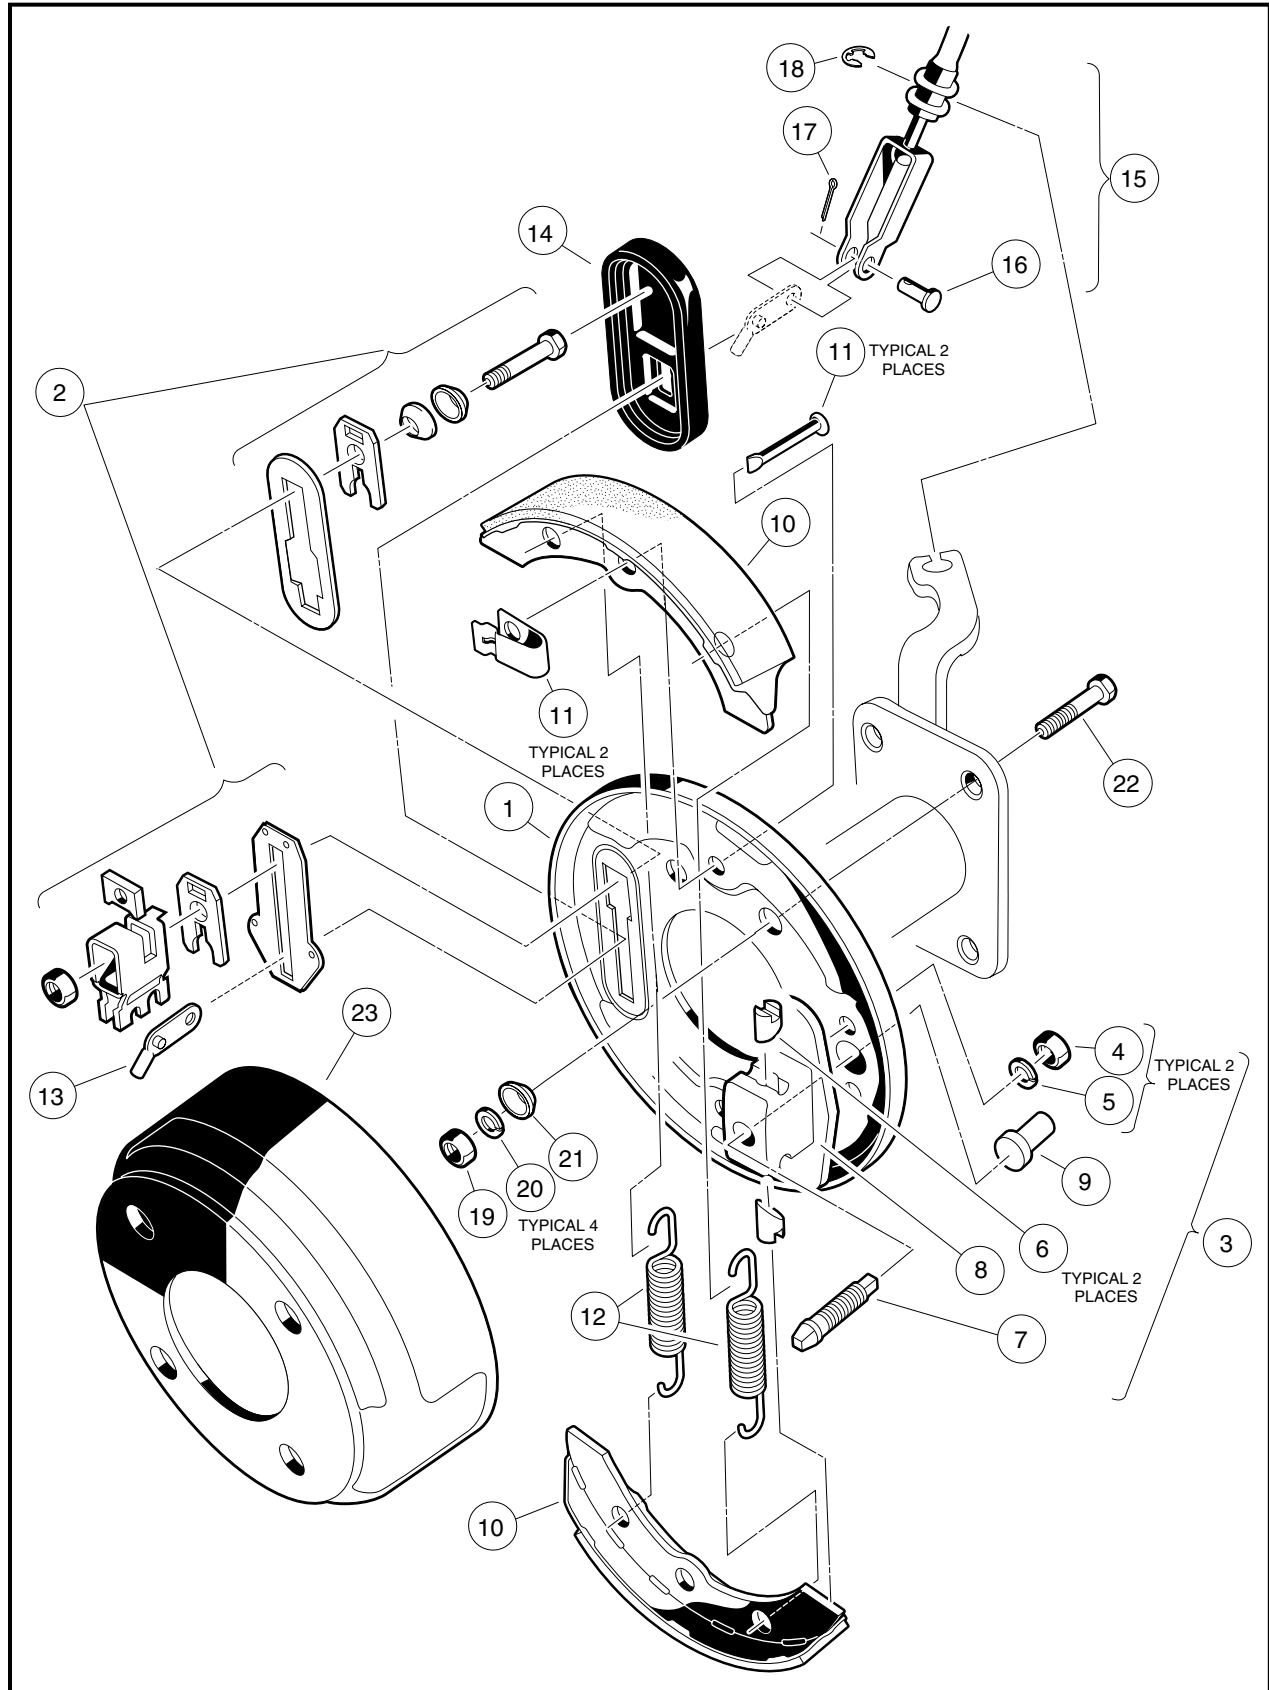

Figure 6-33 Front Manually-Adjusted Brake Assembly
**NOTE:** Components of the front wheel brake assembly are identical to the rear wheel manually-adjusted brake assembly. The front brake assembly is rotated 90° (when compared to the rear brake assembly) so the adjusting bolt on each assembly is oriented to the rear of the vehicle rather than at the top of the assembly (**Figure 6-33, Page 6-18**).
5. Remove cotter pin (17) and clevis pin (16) from brake cable (**Figure 6-33, Page 6-18**).
8. Remove hub and bearing assembly from spindle shaft. Remove four bolts (22), cone washers (21), lock washers (20) and hex nuts (19) that mount the brake assembly to the spindle (**Figure 6-33, Page 6-18**).
1. Install in reverse order of removal. Use bolts (22), cone washers (21), lock washers (20) and hex nuts (19) to mount brake assembly (**Figure 6-33, Page 6-18**).